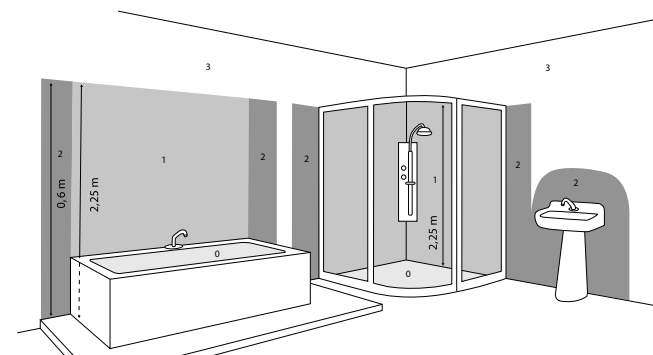

Fig. 2
- Do not install the device in zones 0, 1 and 2, see Figure 2.